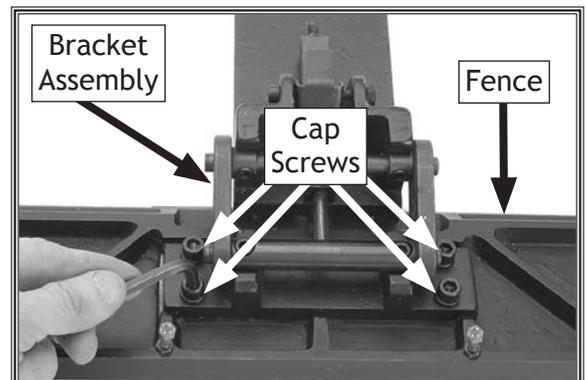

Figure 12. Attaching the fence bracket assembly to the fence.
4. Use the remaining four M8-1.25 x 20 cap screws and 8mm lock washers to attach the fence to the fence bracket assembly, as shown in **Figure 12**.